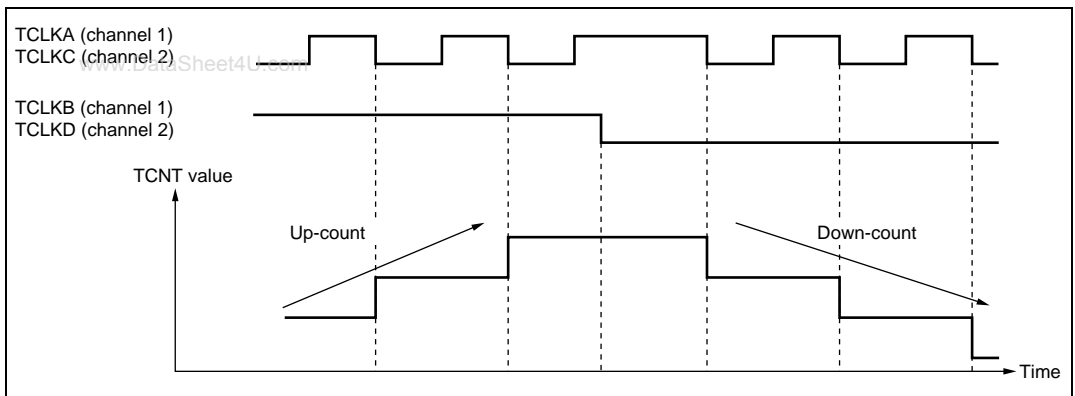

Figure 8.23 Example of Phase Counting Mode 2 Operation
2. Phase counting mode 2: Figure 8.23 shows an example of phase counting mode 2 operation, and table 8.21 summarizes the TCNT up/down-count conditions.